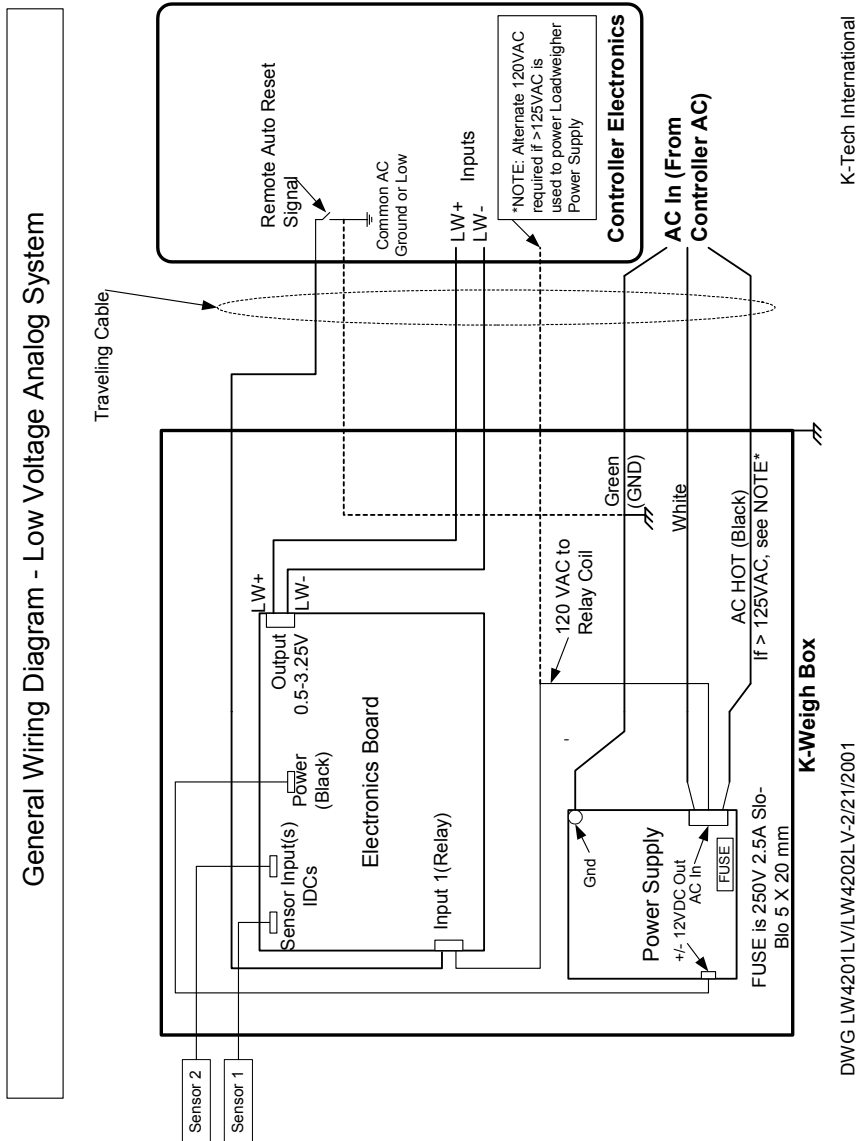

Fig 3.6 Wiring diagram
8. When you have completed the AC and Sensor wiring, your unit should look like Fig 3.6.
2. Connect the LW+ wire to LW+ output on the amplifier board. (Fig 3.6)
3. Connect the LW- wire to LW- output on the amplifier board. (Fig 3.6)